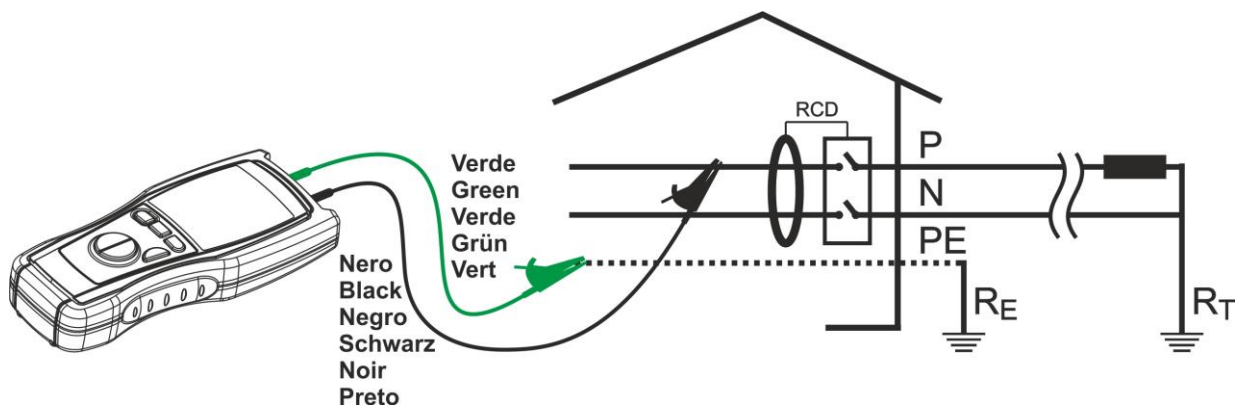

Fig. 11: Connection of the instrument's terminals during $M\Omega$ test
6. Connect the instrument's terminals to the end of the conductors on which the insulation test must be performed (see Fig. 11)